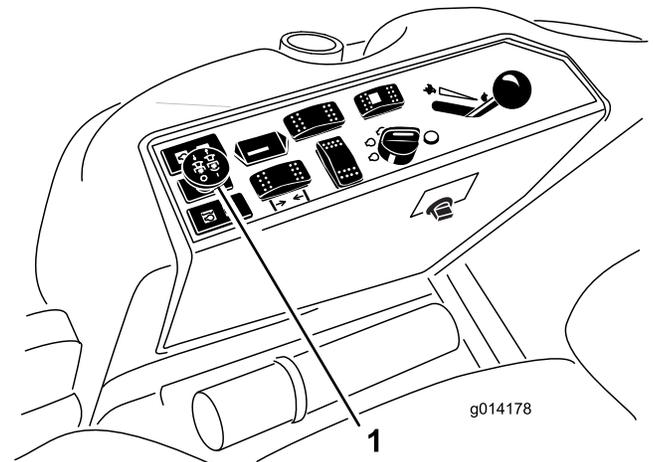

Figure 21
3. Pull up the PTO switch to engage it (Figure 21).